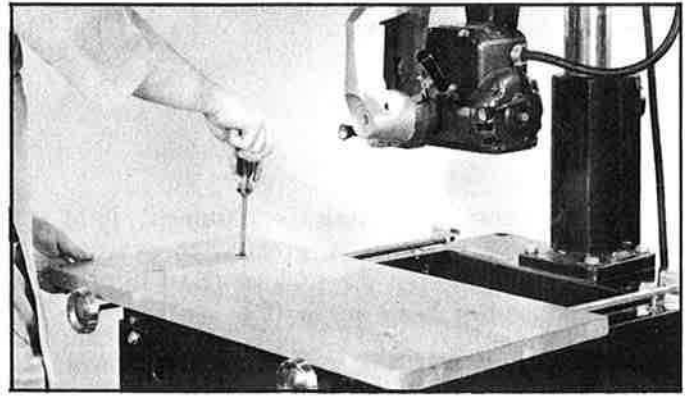

Fig. 18
2. Fasten the main table board in place, using screws and washers provided, see Fig. 18.